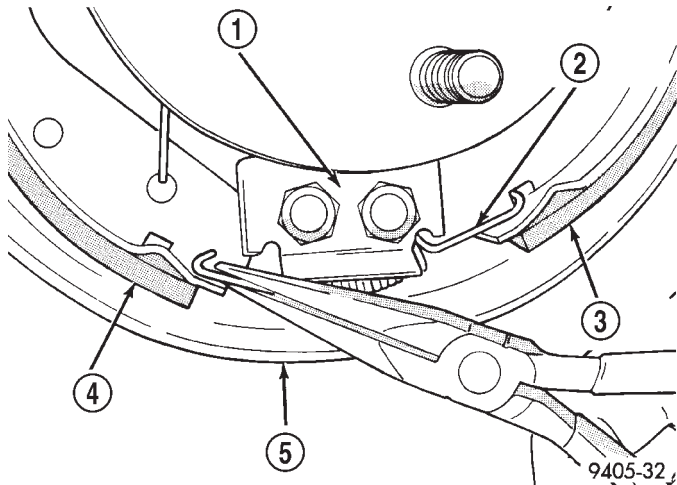

Fig. 105 Brake Shoe Lower Return Spring
(6) Remove the brake shoe lower return spring (Fig. 105).
(8) Install the brake shoe lower return spring (Fig. 105).